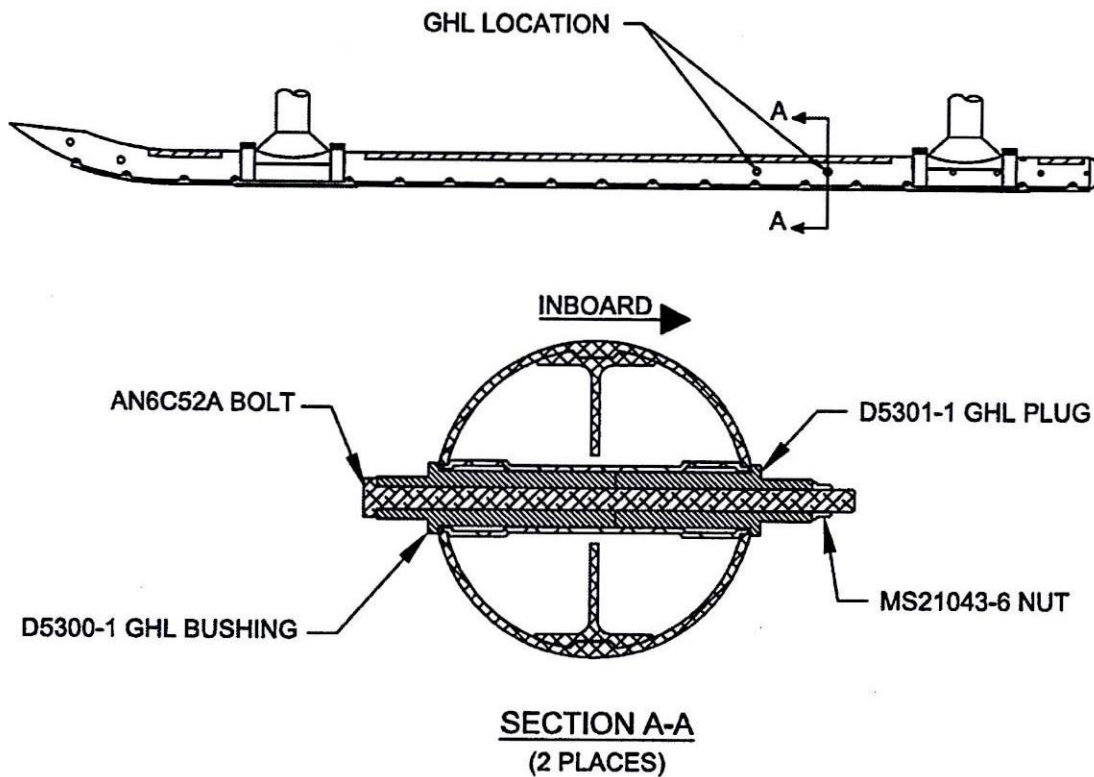

FIGURE 1 - GHL UPGRADE INSTALLATION
The purpose of this Dart Service Instruction (DSI) is to replace the ground handling lugs (D3864-1 Bushings, AN6C51A Bolts and MS21043-6 Nuts) on the D117-762-XXX Skidtubes with a structurally superior lug design (D5300-1 Bushings, D5301-1 Plugs, AN6C52A Bolts, MS21043-6 Nuts) as shown in Figure 1. The new hardware will be included in D117-762-011 @ CHG 004 and subsequent.
- 2.1 Loosely install (qty 2) D5300-1 GHL Bushing & (qty 2) D5301-1 GHL Plug wet with Proseal 890 or MIL-S-8802 Class B2 Sealant in location shown in Figure 1.
- 2.2 Install (qty 2) AN6C52A Bolts and (qty 2) MS21043-6 Nuts in accordance with Figure 1. Clean up squeezed out Proseal and apply fillet seal around D5300-1 & D5301-1.